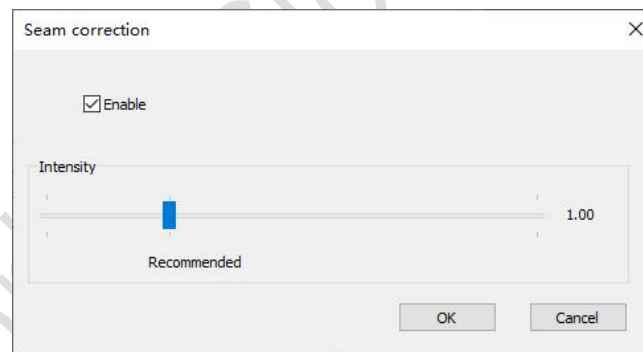

Fig.4-26 Seam correction settings
- **Seam correction:** Click **Seam correction** in the **Project Settings** tab, and then select the **Enable** checkbox in the pop-up window to enable the seam correction function. See Figure 4-26.